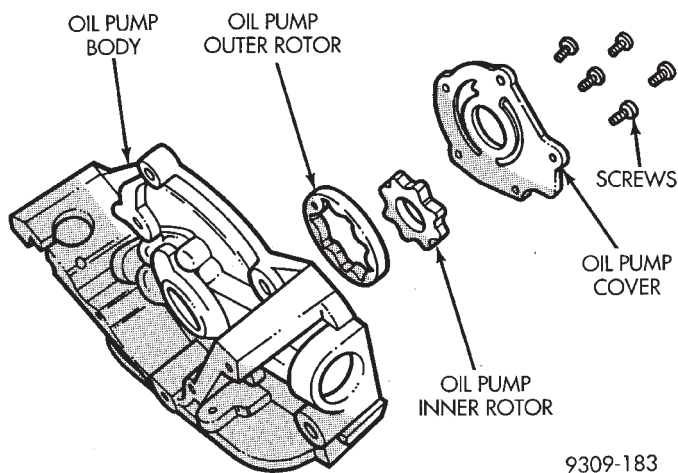

Fig. 105 Oil Pump
- (4) Remove oil pump cover screws, and lift off cover.
- (5) Remove pump rotors.
- (6) Wash all parts in a suitable solvent and inspect carefully for damage or wear (Fig. 105).